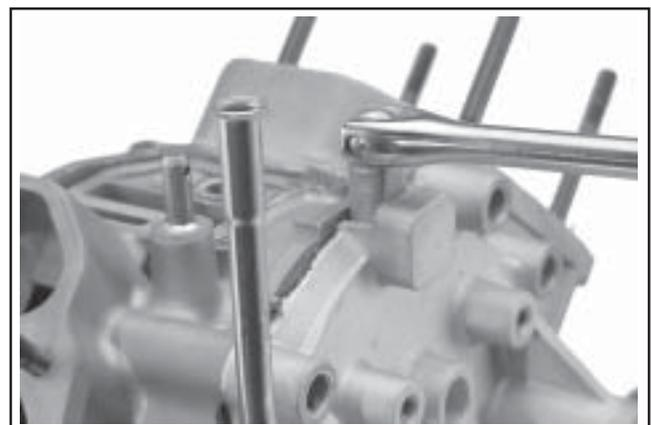

Figure 9-59. Splitting Closure Plate from Crankcase.
2. Locate the three splitting tabs, which are cast into the perimeter of the closure plate. Insert the drive end of a 1/2" breaker bar between the top splitting tab and the crankcase. Hold the handle horizontal and pull it toward you to break the RTV seal. See Figure 9-59. If necessary, pry at the bottom splitting tabs also. Do not pry on the sealing surfaces, as this could cause leaks. Carefully pull the closure plate from the crankcase.